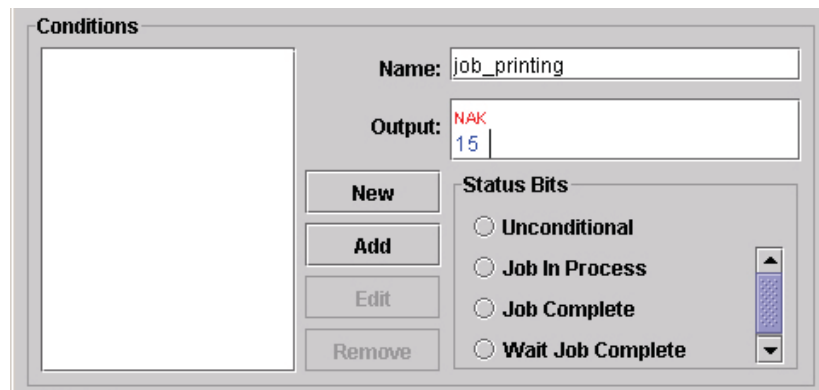

Figure 171 Switching Between ASCII and Hex Entry Modes
2. Define the output that should be transmitted to the host. In the Output field, press the down arrow key and type 15 (NAK). See Figure 171.